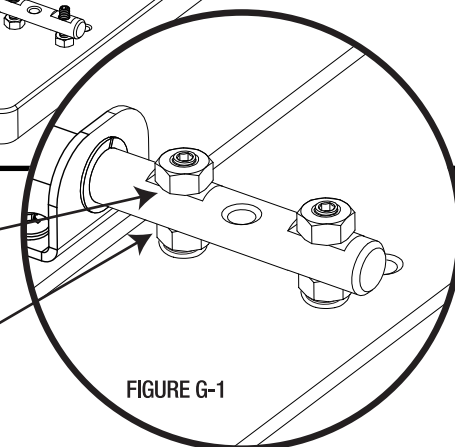

FIGURE G-1
4. Turn the bottom Hex Nut counter-clockwise until it stops against the Stainless Steel Shaft, finger-tight. FIGURE G-1.